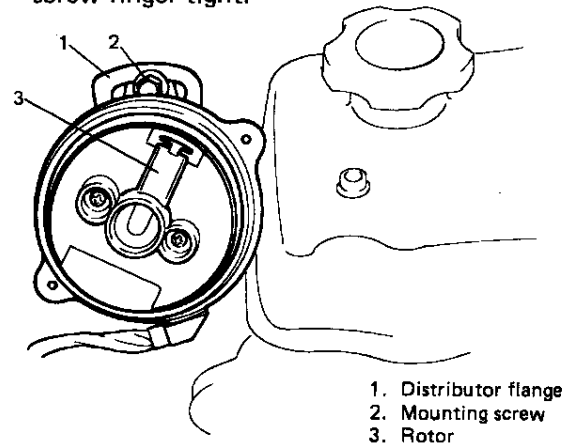

Fig. 8-17 Inserting Distributor
3. Insert the distributor into the gear case in such a way that the center of distributor flange will coincide with the distributor mounting screw hole provided in the distributor gear case. When inserting the distributor completely, position of distributor rotor becomes as shown in Fig. 8-17. Secure the distributor in place tentatively by making the mounting screw finger-tight.